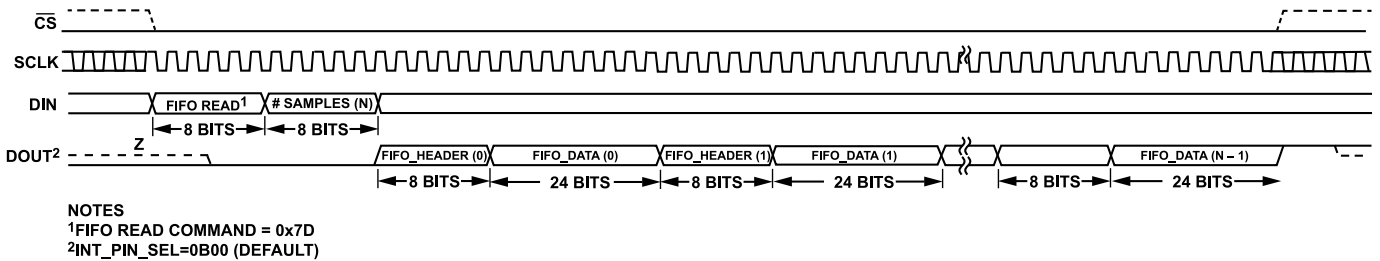
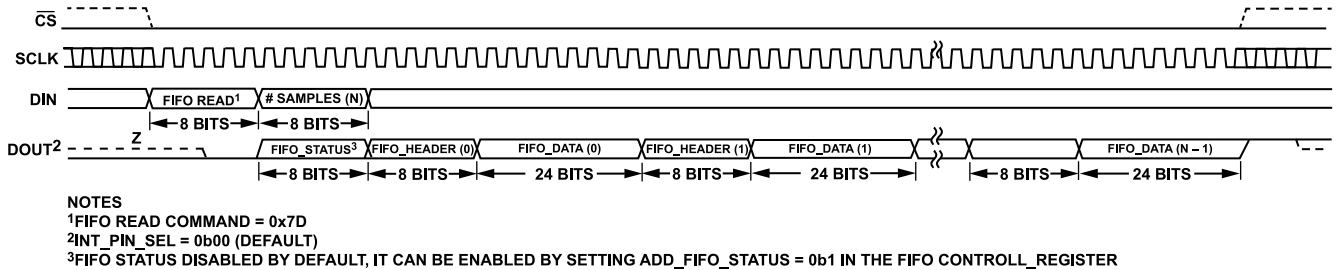

Figure 103. FIFO Readback Default (FIFO\_STATUS Append Off and FIFO\_HEADER Append On)
Figure 104. FIFO Readback (FIFO\_STATUS Append On and FIFO\_HEADER Append On)
By default, the FIFO\_HEADER is enabled and the FIFO\_STATUS append is disabled, so the FIFO readback diagram looks like Figure 103. If the FIFO\_STATUS append is enabled, the FIFO readback diagram looks like Figure 104.
The FIFO\_STATUS register content (see Table 69) can be enabled to be added and read before the FIFO\_DATA and during the # samples (N) byte (see Figure 104), by setting ADD\_FIFO\_STATUS bit to 1 in the FIFO\_CONTROL register (see Table 67). This way, the user can detect an error earlier on and abort the FIFO\_DATA readback.